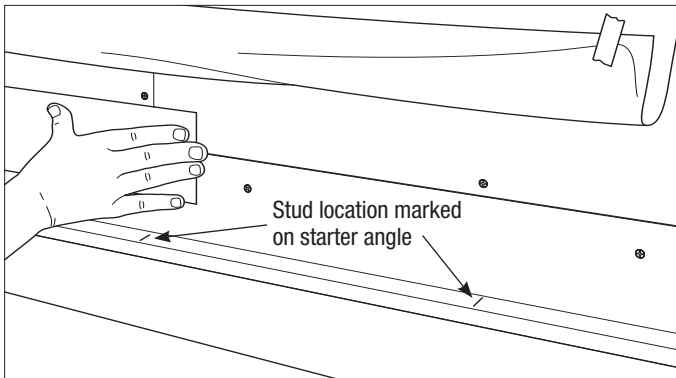

FIGURE 1
- Mark the center of each stud on the outer edge of the starter angle as they will serve as references for fastening the support panels after the WRB or continuous insulation is installed (see Figure 1).